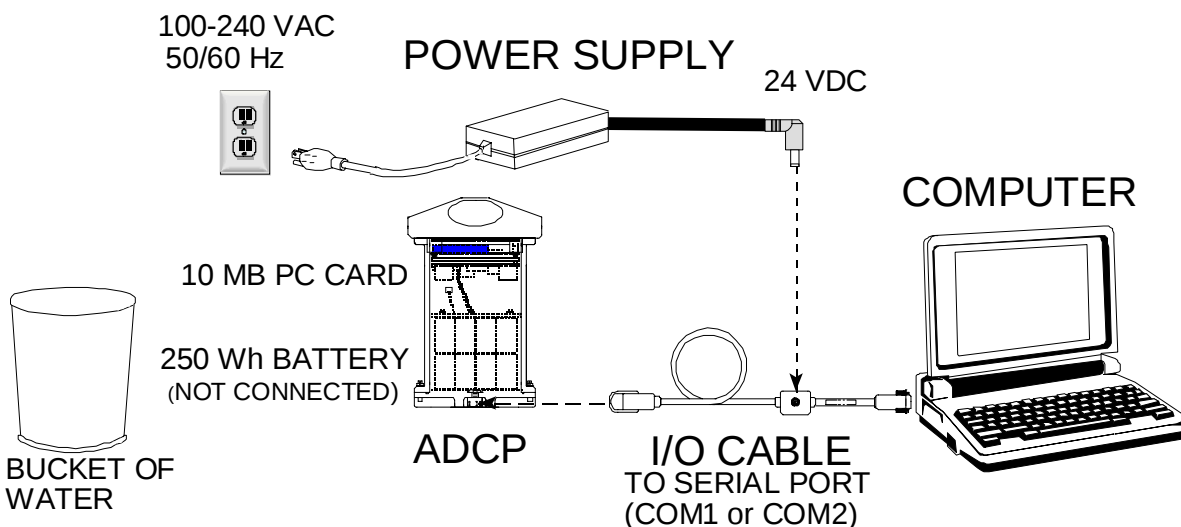

Figure 1-5. Sentinel Workhorse Connections
- Use Figure 1-5 to connect the Workhorse I/O cable and the computer.